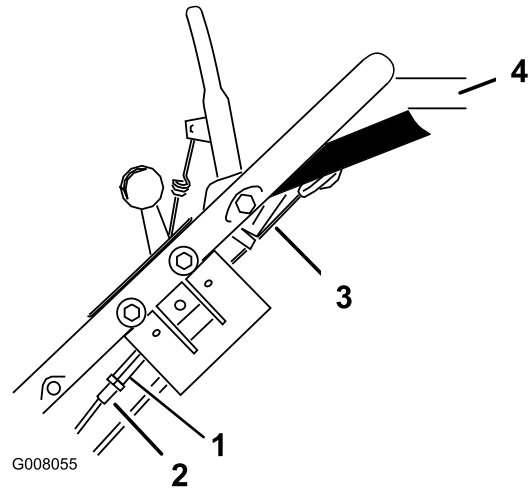

Figure 25
1. Loosen the nut that secures the adjuster (Figure 25).
2. Turn the adjuster until you remove the slack in the exposed cable (Figure 25).